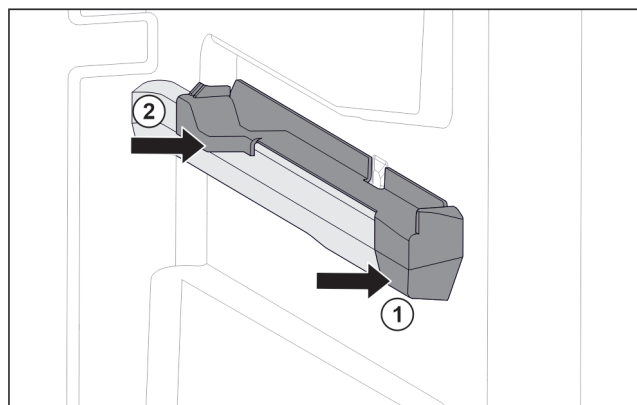

Fig. 127 Attachment on the right moulded rib
- Position attachment on moulded rib at the front. *Fig. 127 (1)*
- Press on attachment at the back. *Fig. 127 (2)*